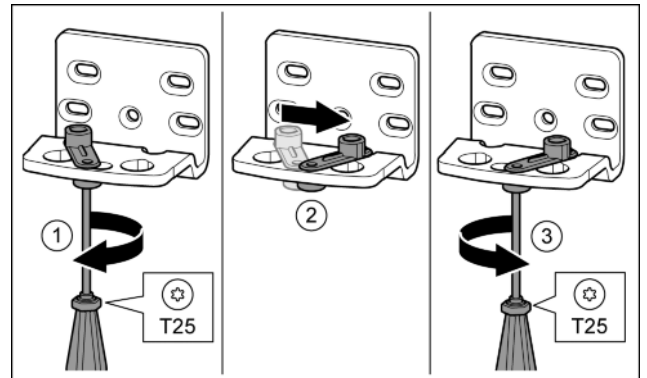

Fig. 16\*
- ▶ Loosen the screw using a T25 screwdriver.\* Fig. 16 (1)
- ▶ Lift the door closure aid and turn it 90° to the right in the hole.\* Fig. 16 (2)
- ▶ Tighten the screw using a T25 screwdriver.\* Fig. 16 (3)